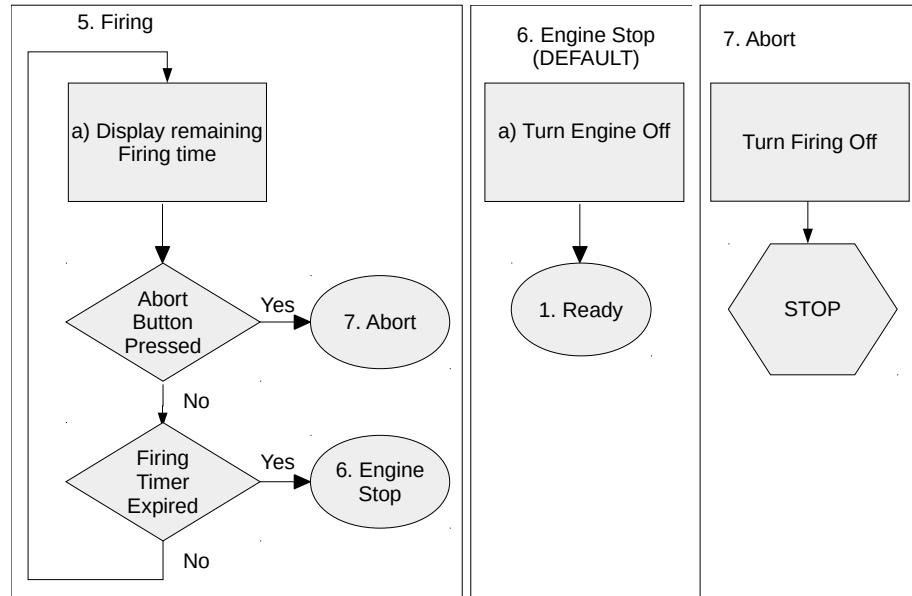

FIGURE 3.2 Flow diagrams for each of the eight states in our rocket launching state machine.
Having drawn our state diagram, we can proceed to making flow diagrams. You need one for every state, so Fig. 3.2 has eight separate ones. If the actions within a state are really complex, you might not be able to fit everything on one page (PowerPoint slide), but if that is really the case, maybe you should divide the action of that state into two or more states. The simpler a given state is, the easier it will be to debug.
As an example of how to read these diagrams, consider the **Ready** state in Fig. 3.2. When the code that makes up the state starts executing, the first thing that happens is a check to see if the
10. Refer back to Fig. 3.2. We need to convert the flow diagram for the Ready state into actual code. Put the actions on the left side inside the Case Structure. Put the next state determination code on the right side. Create local variables for the items that need to be set. In your robot code these may instead be calls to motors, solenoids, or other VIs.